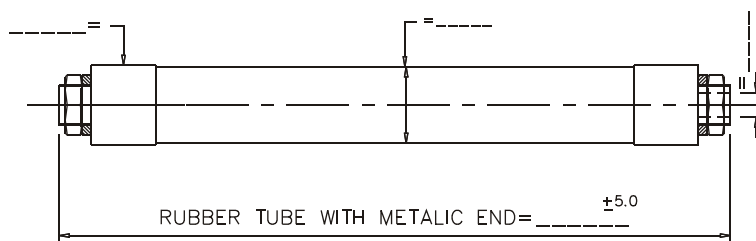

Figure 10: Rubber tube assembrdrawing for ordering
10. If you can not find Air Shaft no, please give us following information on the drawing (Shown in figure10) & we will supply the material.